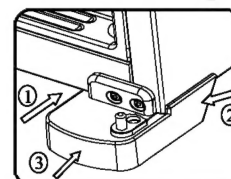

Fig. 3
Step 5: Snap the cover on the left and right levellers as shown in fig 3 & 3a.